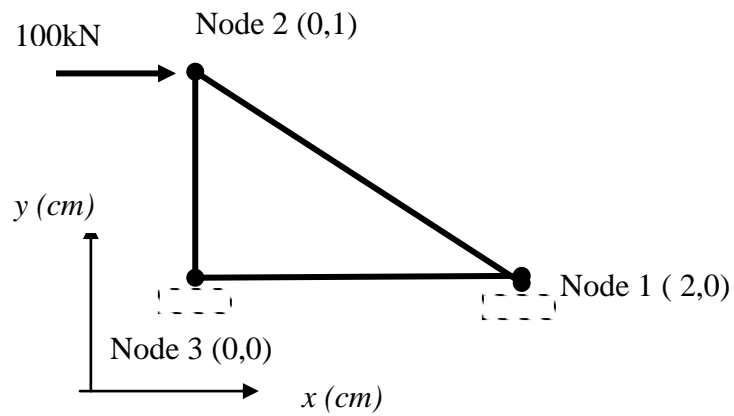

Figure 2
4. (d) Calculate the displacement at node 2 (u_2 and v_2), for a triangular element in a state of plane stress as shown in Figure 2. Assumed node 1 and 3 are fixed. Given the applied force at node 2 in x direction is 100kN, $E = 200 \text{ GN/m}^2$, $\nu = 0.3$ and $t = 2 \text{ cm}$.